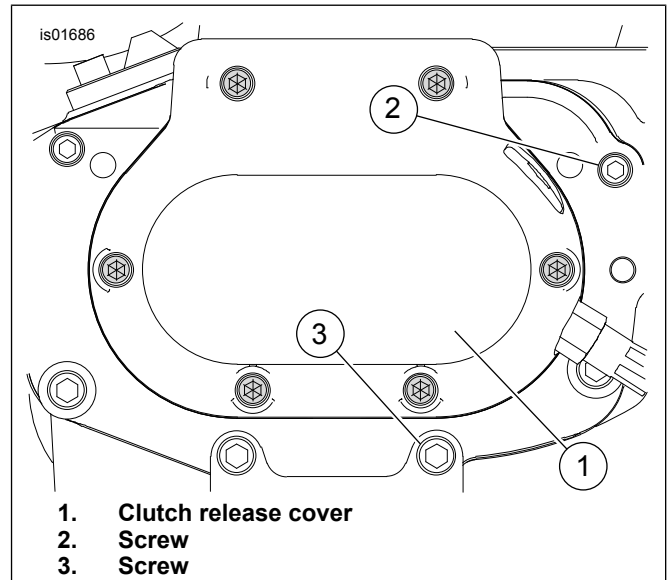

Figure 1. Mounting Bracket Fastener Location
2. See Figure 1. At the clutch release cover (1), remove and retain screw (2).
3. Loosen screw (3) approximately three turns.